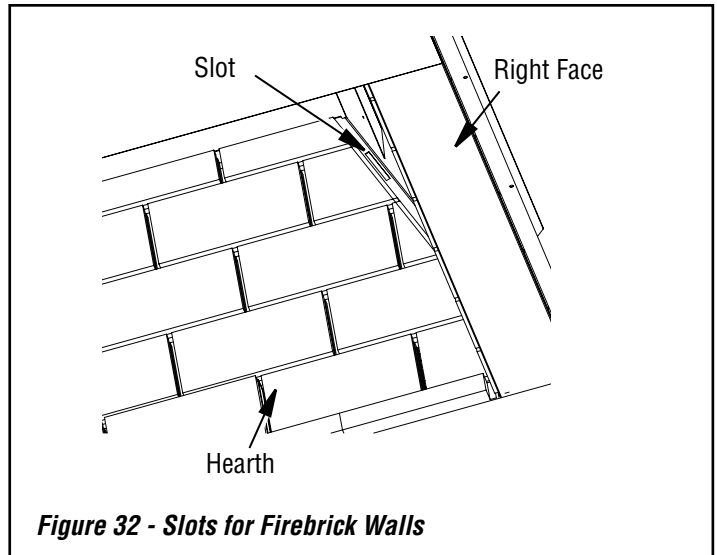

Figure 32 - Slots for Firebrick Walls
3. Install the left and right firebrick walls. There is a bracket with 2 tabs on the bottom of each firebrick wall. Angle the wall into the fireplace opening and into the slots on the side of the hearth (**Figure 32**), then tilt the top of the panel toward the firebox surround.